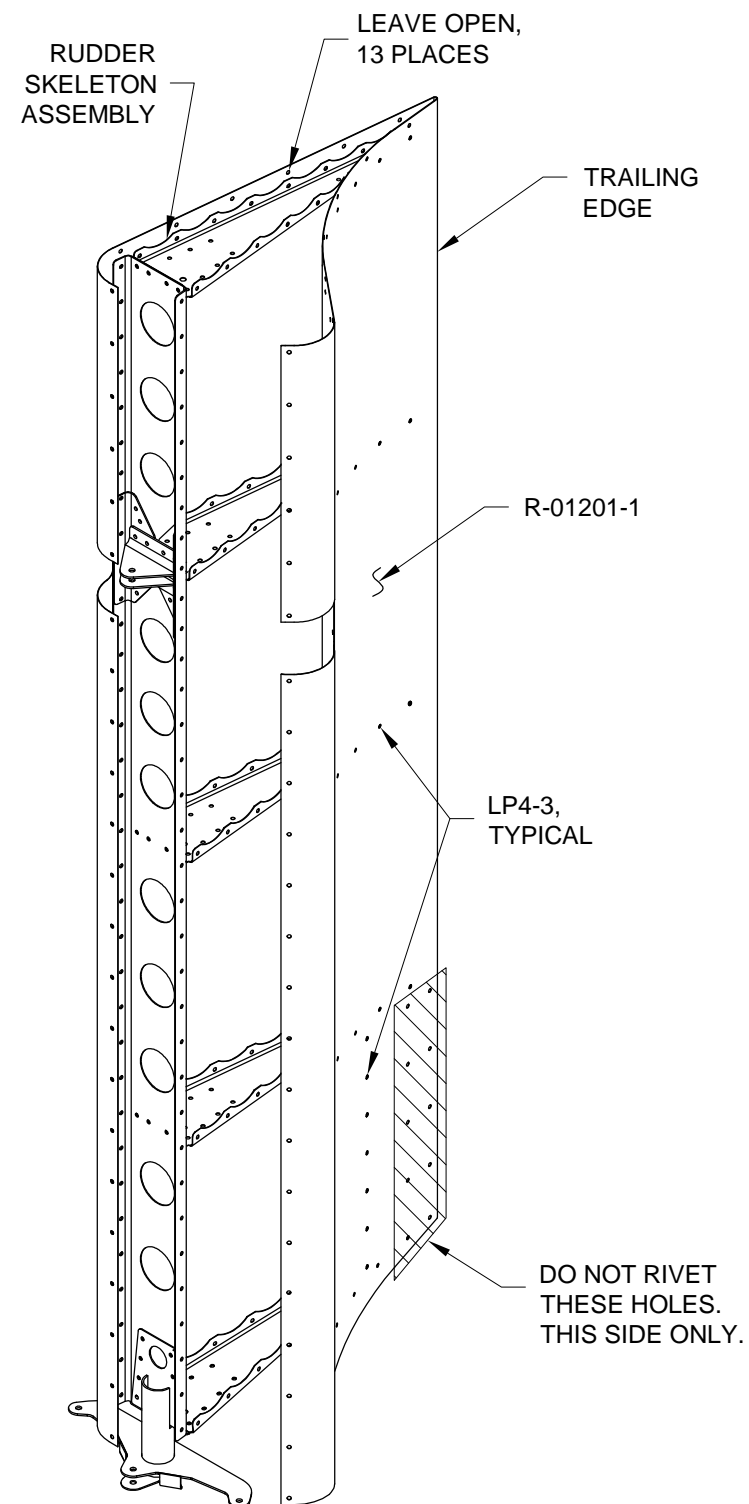

FIGURE 2: SKIN ATTACHMENT
Step 3: Starting nearest to the trailing edge rivet the skin to the Rudder Skeleton Assembly per the call-out in Figure 2. Leave open the top row of holes in the skin and the holes in the region of the trim tab per the call-outs.